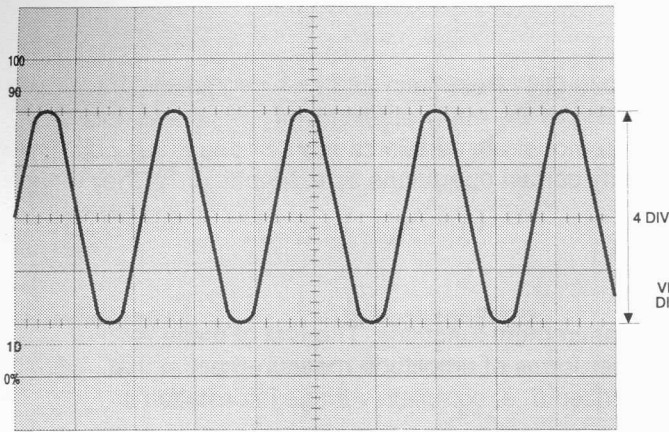

Fig. 2.5: Peak-To-Peak Voltage Measurement
2. Adjust the TIME/DIV switch (15) for two or three cycles of waveform, and set the VOLTS/DIV switch for the largest-possible totally-on-screen display.
3. Use the appropriate Vertical POSITION control (4) or (7) to position the negative signal peaks on the nearest horizontal graticule line below the signals peaks, per Figure 2-5.
4. Use the Horizontal POSITION control (10) to position one of the positive peaks on the central vertical graticule line. This line has additional calibration marks equal to 0.2 major division each.
5. Count the number of division from the graticule line touching the negative signal peaks to the intersection of the positive signal peak with the central vertical graticule line. Multiply this number by the VOLTS/DIV switch setting to get the peak-to-peak voltage of the waveform. For example, if the VOLTS/DIV switch were set to 2 V, the waveform shown in Figure 2-5 would be $8.0 V_{pp}$ ($4.0 \text{ div} \times 2 \text{ V}$).